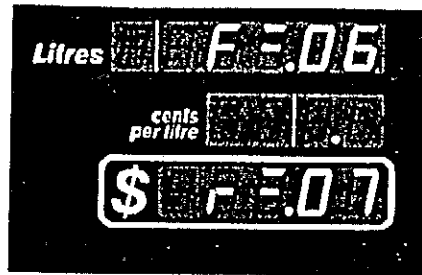

Figure 1-4 – Fuelling Position Number – REAR
3. Press the asterisk (*) button on the numeric keypad. The display digit second from the right on the Money display will flash the *current* Fuelling Position number for the *rear* of the pump. Refer to Figure 1-4